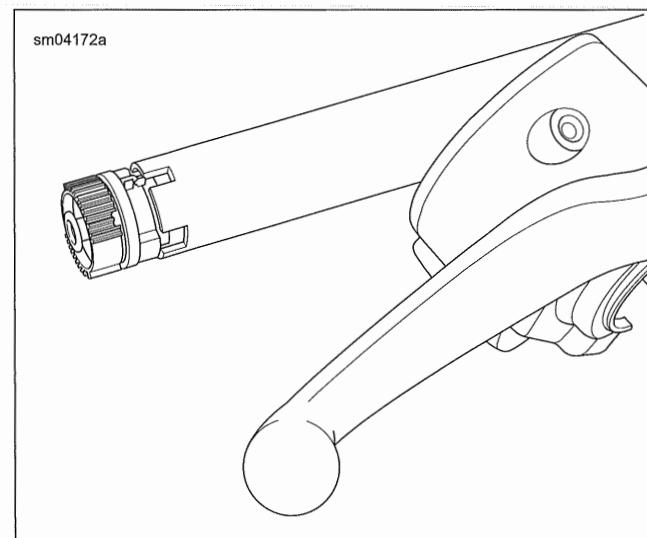

Figure 6-31. Install Twist Grip Sensor
- c. See Figure 6-31 Verify TGS is engaged into alignment slots in handlebar.